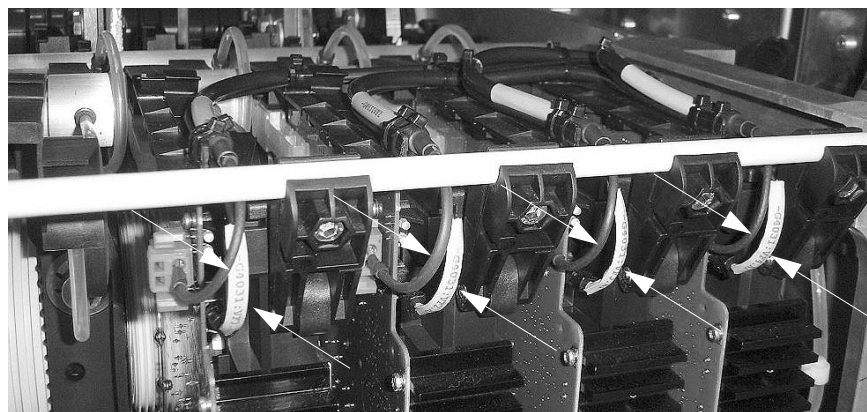

Figure 4-4 Disconnecting Fiber Optics and Power Supply Cables
- 6 Disconnect the fiber optic cables (4) and the power supply leads (4) from the module to be changed (see arrows *Figure 4-4*).